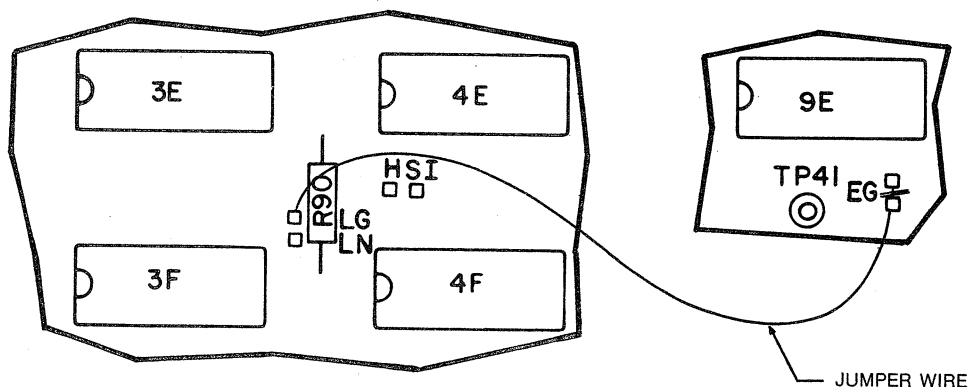

FIGURE 3-18. ERASE GATE
2. Add jumper wire from EG pad to LG pad as shown in Figure 3-18.